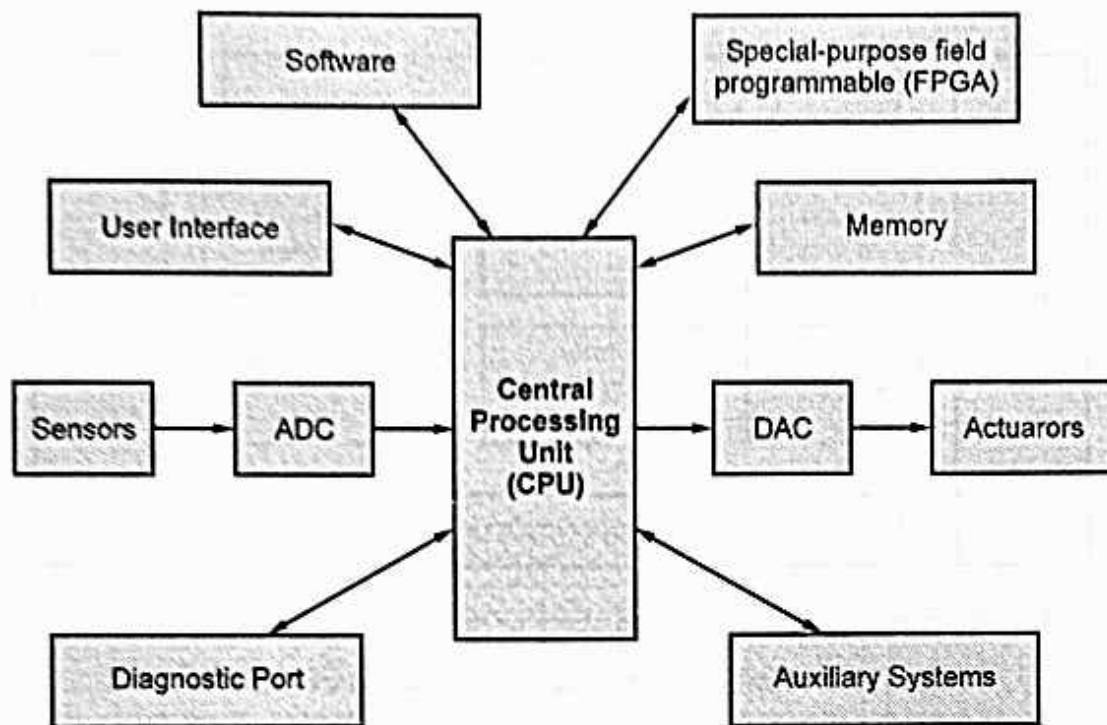

Fig. 1.4.1 : Possible organization for an embedded system
- Fig. 1.4.1 shows one possible organization for an embedded system.